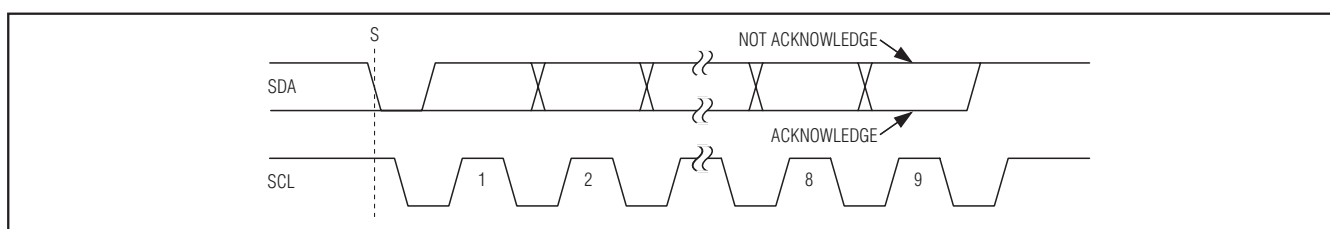

Figure 8. Acknowledge Bits
Successful data transfers are acknowledged with an acknowledge bit (A) or a not-acknowledge bit ($\bar{A}$). Both the master and the MAX1169 (slave) generate acknowledge bits. To generate an acknowledge, the receiving device must pull SDA low before the rising edge of the acknowledge-related clock pulse (ninth pulse) and keep it low during the high period of the clock pulse (Figure 8). To generate a not acknowledge, the receiver allows SDA to be pulled high before the rising edge of the acknowledge-related clock pulse and leaves it high during the high period of the clock pulse.